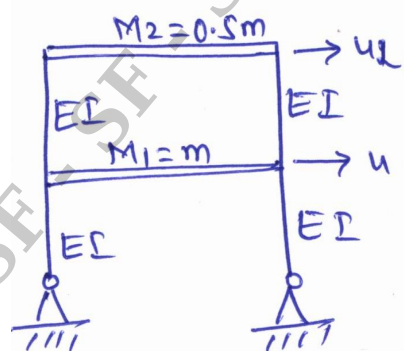

Fig.Q5
- 5 Compute the natural frequency and modes for the shear building shown in Fig.Q5 and prove the orthogonality of modes. Take $EI = 5 \times 10^6$ N-m², $m = 500 \times 10^3$ kg, storey height = 3 m, span = 5m.